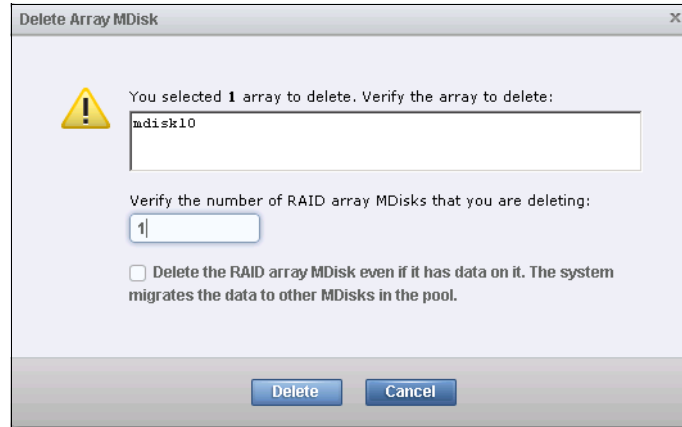

Figure 7-50 Delete Array MDisk window
- **Delete:** An Array MDisk can be deleted from the MDisk by Pools panel by clicking **RAID Actions** → **Delete**. You must confirm the deletion by entering the correct number of array MDisks to be deleted (Figure 7-50). If data is on the MDisk, force the deletion by selecting the check box (**Delete the RAID array MDisk even if it has data on it. The system migrates the data to other MDisks in the pool**).